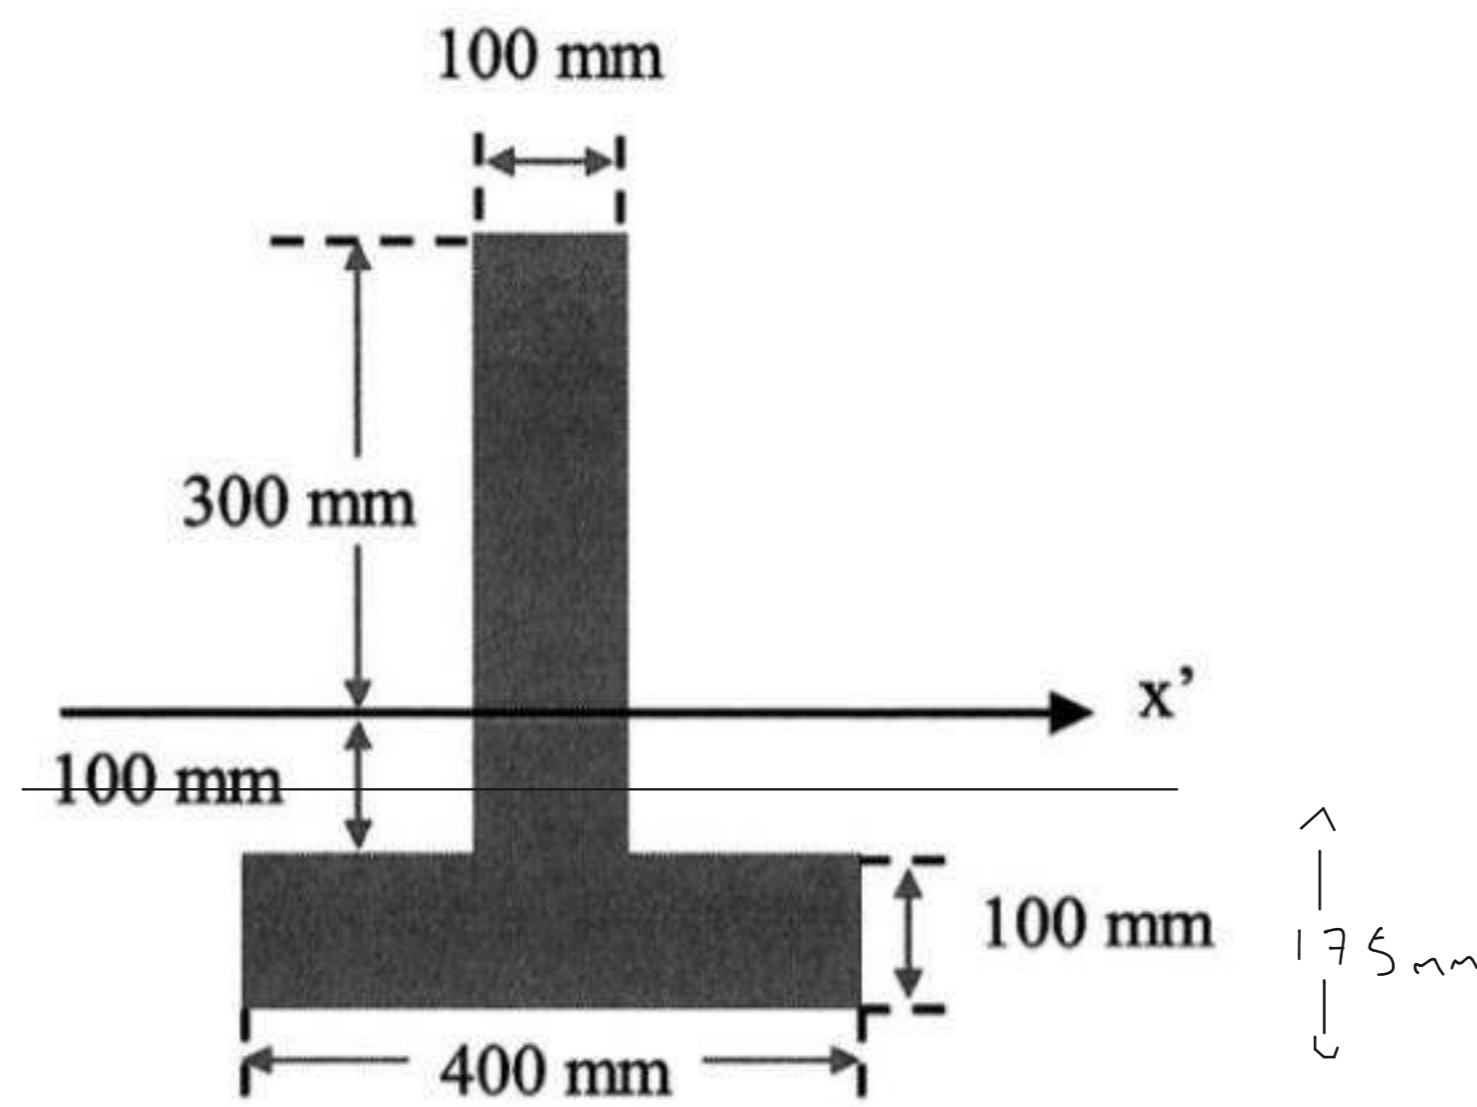

Figure Q2
2. (a) Determine the moment of inertia of the inverted T cross-sectional area with respect to the x' axis as shown in **Figure Q2**.